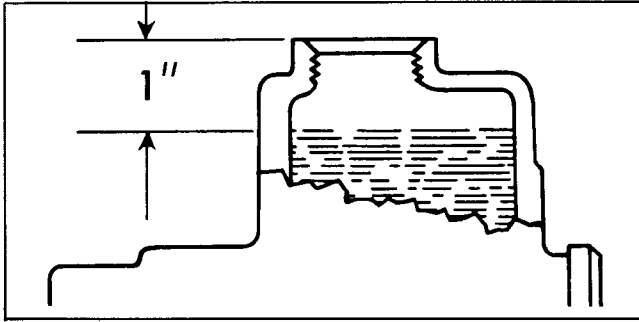

Fig. 5-4 Correct Level in Master Cylinder
6. Add sufficient brake fluid in master cylinder to bring fluid level to within 1" of top of gasket surface on filler neck (Fig. 5-4). Bleed brakes if necessary to get proper pedal reserve and remove "spongy pedal".
4. When bleeding operation is completed, refill reservoir to within 1" of top of master cylinder filler neck gasket surface (Fig. 5-4) and then replace filler cap.